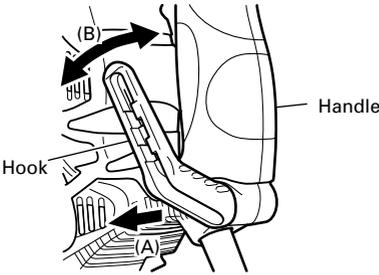

Fig. 12
(1) Operating the hook
- (a) Pull out the hook toward you in the direction of arrow (A) and turn in the direction of arrow (B) (Fig. 12).